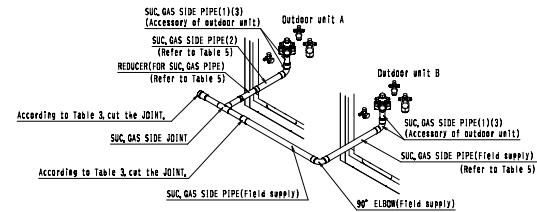

Fig. 5
-Connect SUC. GAS SIDE PIPE with SUC. GAS SIDE JOINT, (Refer to Fig. 5, 6)